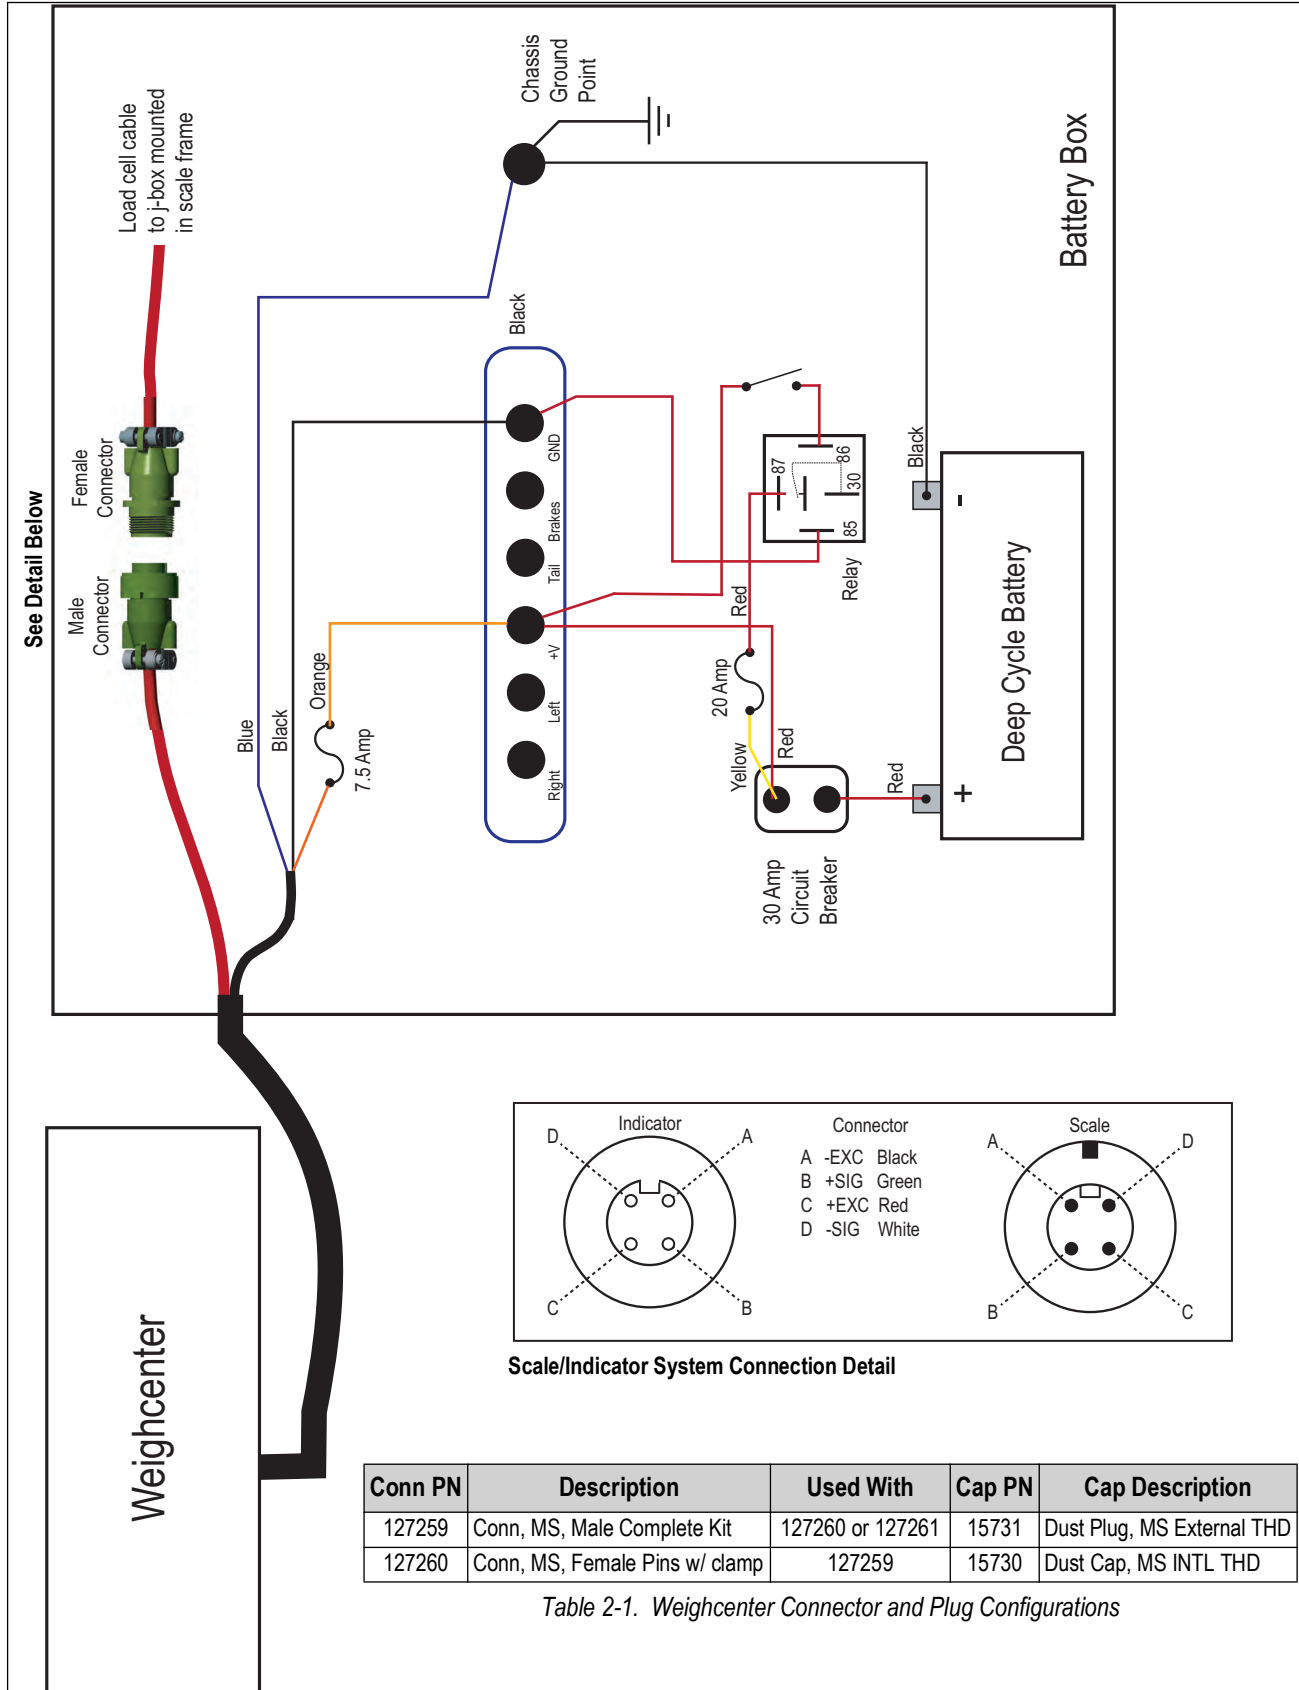

Figure 2-12. Scale Wiring Diagram
2. Connect the power wires (Figure 2-12 on page 18).